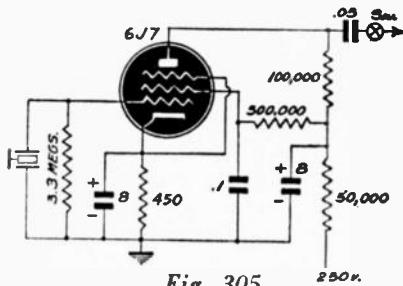

Fig. 305
A. This pre-amplifier (Fig. 305) follows the circuit of the microphone amplifier tube already in your set. By attaching the output lead to the